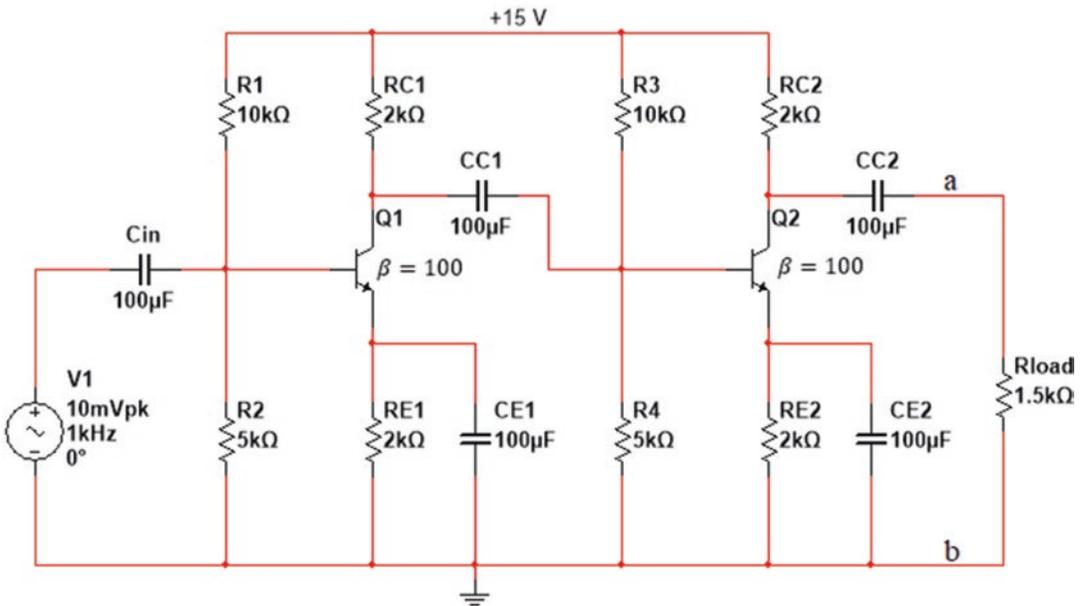

Fig. 2.346 Schematic for Exercise 4
4. Assume the amplifier shown in Fig. 2.346.
5. Assume that both transistors in Fig. 2.346 are 2N2222. Use LTspice to draw the: